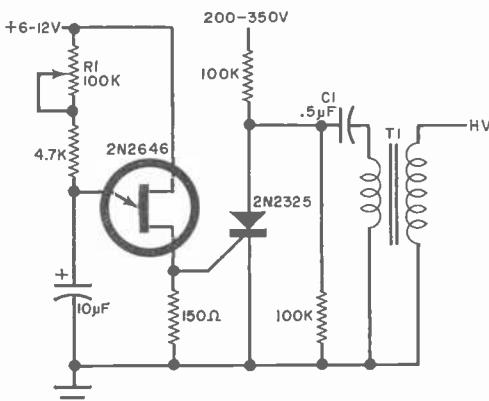

**Fig. 3.** When \$S\_1\$ is closed, \$C\_1\$ discharges through primary of transformer producing the high-voltage spike.
**Trigger Circuits.** The basic trigger circuit is shown in Fig. 3. When switch \$S\_1\$ is open, the high-voltage dc charges capacitor \$C\_1\$